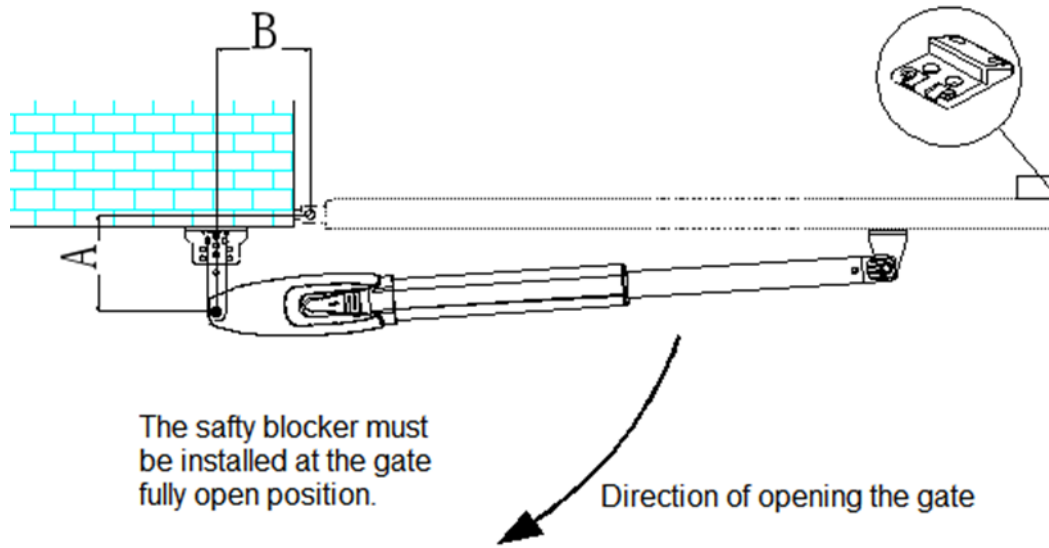
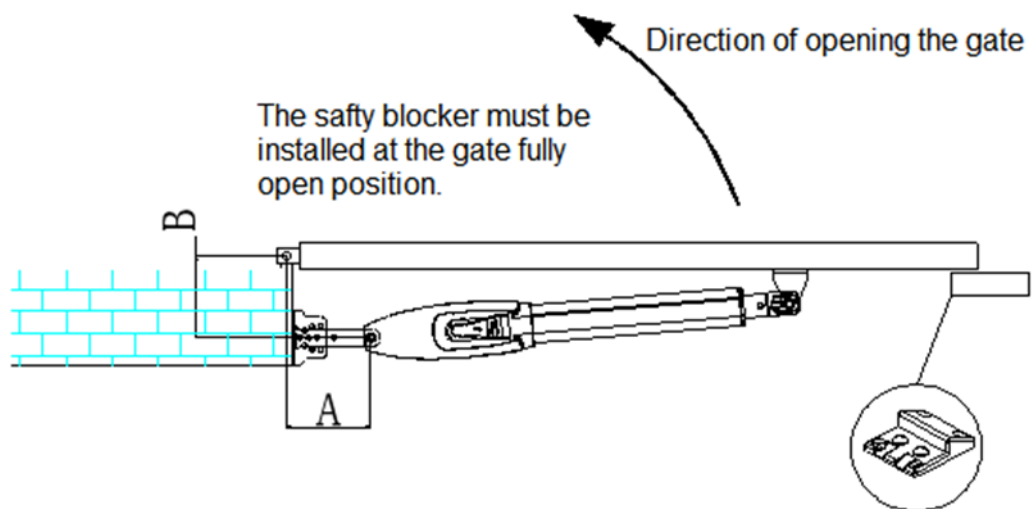

Figure 8
Figure 9
- Please install a gate stopper at the open limit position when the door opens outward to prevent the gate from running beyond its travel. This will ensure the safety and protection of the machines. Meanwhile, to enable the 2 swings to close to its accurate limit position, please install a limit stopper at the close limit position (as shown in figure 9). Similarly, when the door opens inward, please install a limit stopper at the close limit position (as shown in figure 8).